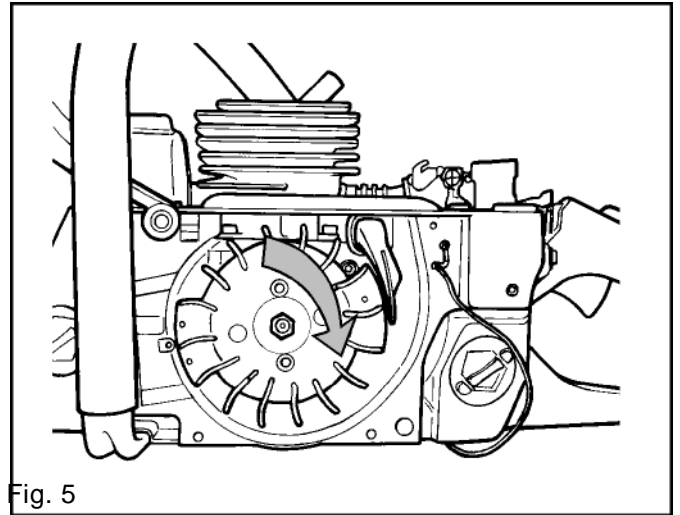
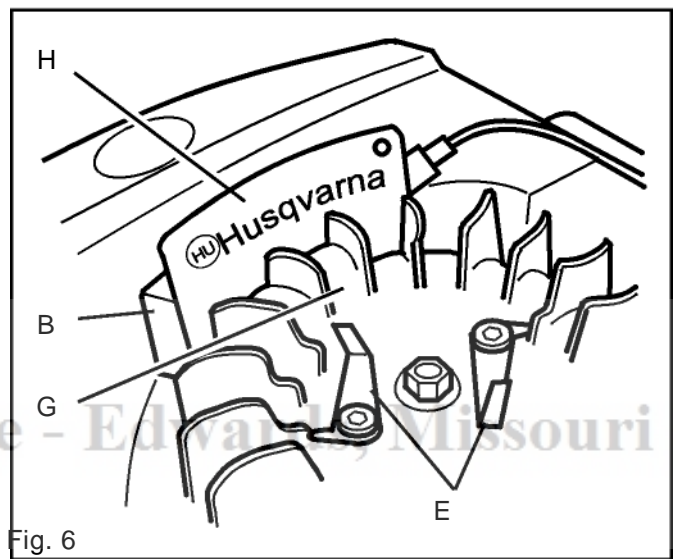

Fig. 5
Fig. 6
2. Fit the flywheel washer and nut. Tighten the nut to 35 Nm. See fig. 5.
3. Locate the ignition module (B) without tightening the bolts.
4. Rotate the flywheel so that the magnet (G) is beside the ignition module. See fig. 6.
5. Insert the feeler gauge (H) (0.3 mm) into the air gap between the ignition module and flywheel magnet. The clearance applies only to the two lower pegs on the ignition module. See figs. 6 and 7.
7. Fit the cable guide (D) and press in the HT lead into place. Remove the piston stop and connect the HT lead to the spark plug.